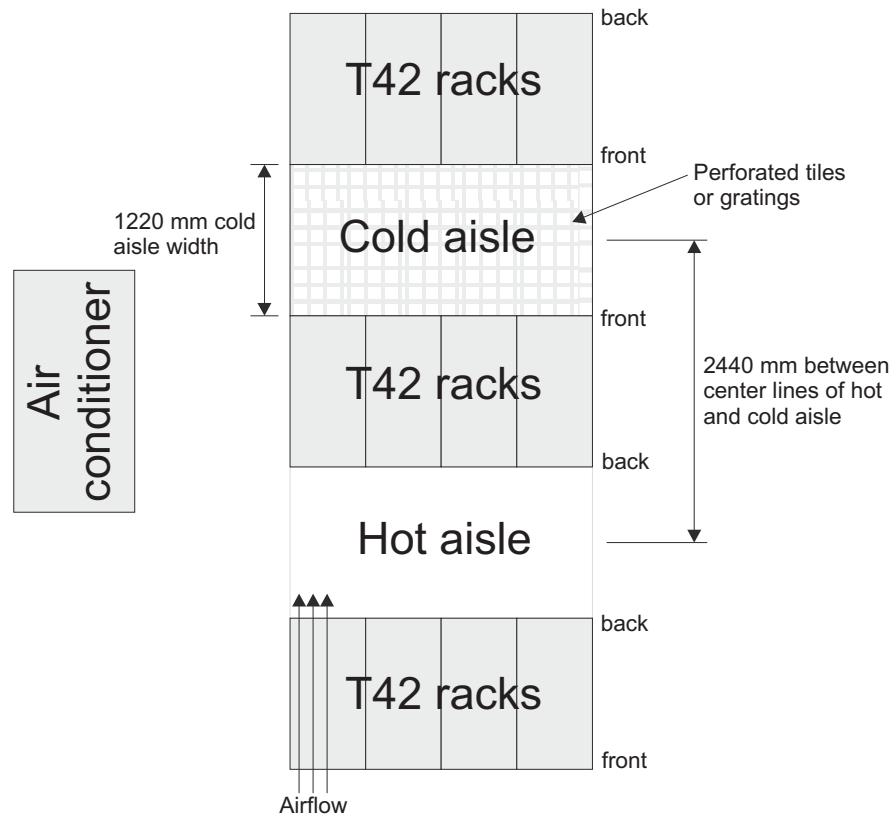

Figure 9. Example of cold aisle/hot aisle rack configuration
- Air enters at the front of the rack and leaves at the back. To prevent the air that is leaving the rack from entering the intake of another piece of equipment, you must position the racks in alternate rows, back-to-back and front-to-front. This arrangement is known as *cold aisle and hot aisle* and is shown in Figure 9.